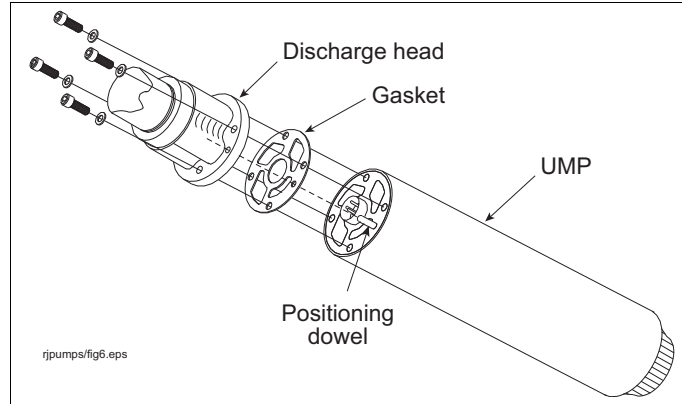

Figure 30. UMP bolts and gasket
4. Remove the old UMP by removing the four bolts holding the discharge head as shown in Figure 30. Discard the old gasket and fasteners.